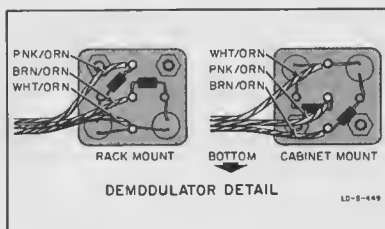

Figure 5-4. Cabinet/Rack Demodulator Differences
5-17. The demodulator assembly (A104) is located behind the meter between the main chassis and the power transformer (see figures 5-4 and 5-13). Proceed as follows:
- Reverse the above procedure to install replacement assembly. Wire connection differs for the 413A cabinet mount and the 413AR rack mount. See figure 5-4 for wiring detail.